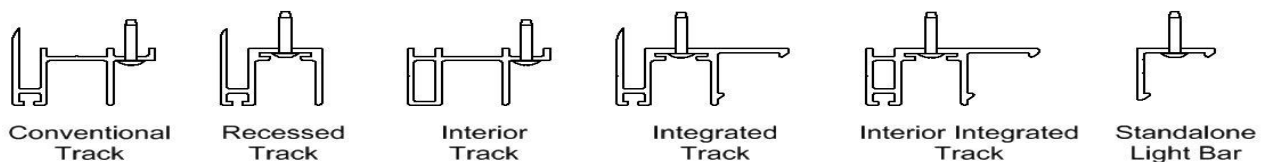

Fig. 2
- b) Position the track between the header and the bottom of the compartment. Make sure the bottom of the track touches the bottom of the compartment. The finishing flange should be flush against the skin of the vehicle. Optional track configurations are shown in Fig. 2.